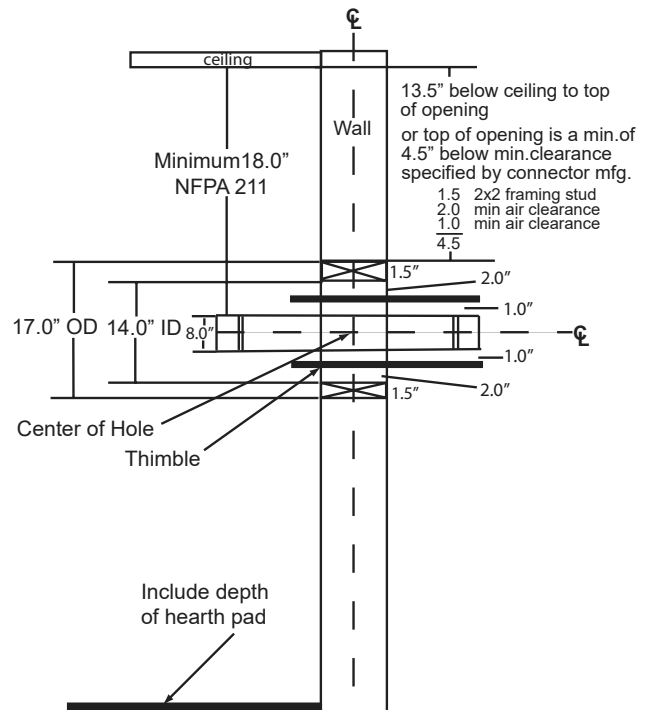

Figure 16.2
- Top of wall opening is a minimum of 13-1/2 inches (343mm) from ceiling or 4-1/2 inches (114mm) below minimum clearance specified by chimney connector manufacturer. NFPA 211 minimum vertical clearance of 18 inches (457mm) from chimney connector and ceiling or minimum recommended by chimney connector manufacturer (**Figure 16.2**).
3. Construct a 17 inch x 17 inch (432mm x 432mm) outside dimension frame from 2 x 2 framing lumber to fit into wall opening. Inside opening of frame should be no less than 14 inch x 14 inch (356mm x 356mm) (**Figure 16.2**).